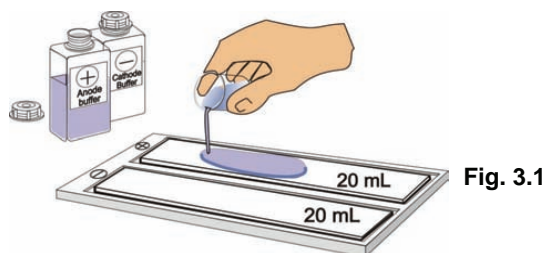

Fig. 3.1
2. Lay two electrode wicks into the compartments of the PaperPool. Add 20 mL of the respective electrode buffer to each wick and allow to soak for at least 10 minutes (Fig 3.1).